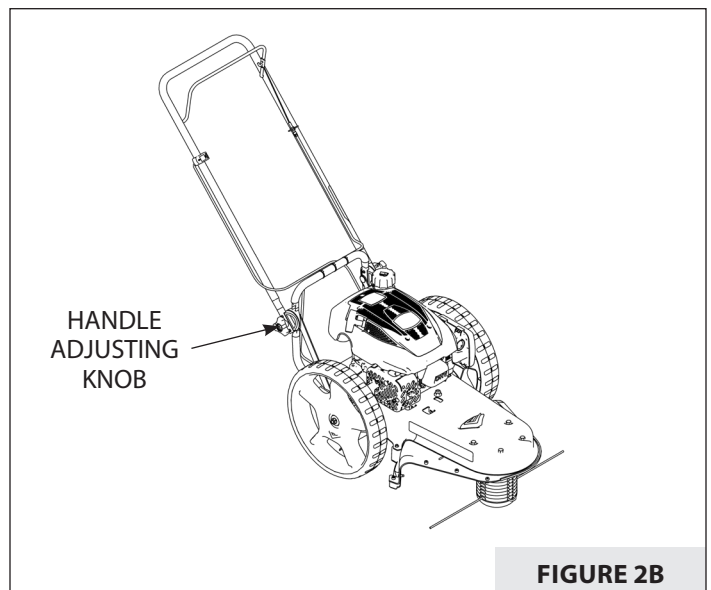

FIGURE 2B
4. Tighten the handle adjustment knobs. Make sure the handle pivots are locked in place. **SEE FIGURE 2B.**